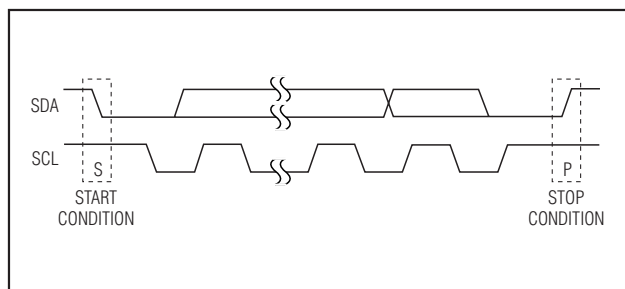

Figure 11. START and STOP Conditions
Each transmission consists of a START condition (see Figure 11) sent by a master, followed by the MAX7302 7-bit slave address plus R/W bit, a register address byte, one or more data bytes, and finally a STOP condition (see Figure 11).
Both SCL and SDA remain high when the interface is not busy. A master signals the beginning of a transmission with a START (S) condition by transitioning SDA from high to low while SCL is high. When the master has finished communicating with the slave, it issues a STOP (P) condition by transitioning SDA from low to high while SCL is high. The bus is then free for another transmission (see Figure 11).